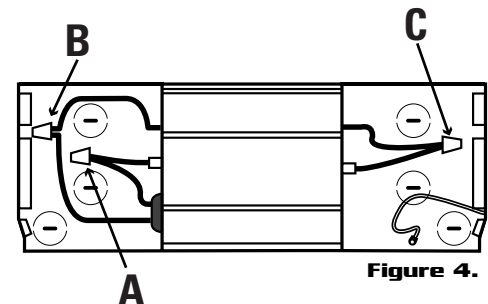

Figure 4.
**Left Side Wiring** (See Figure 4)
**Right Side Wiring** (See Figure 4)
Connect one each of the supply wires to one each of the red thermostat wires. Connect black thermostat wires to remaining (factory spliced) heater wires (see Figure 4 on previous page).